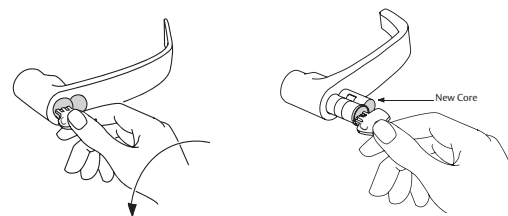

Figure 10
b. Interchangeable Core LFIC or SFIC (Figure 10)